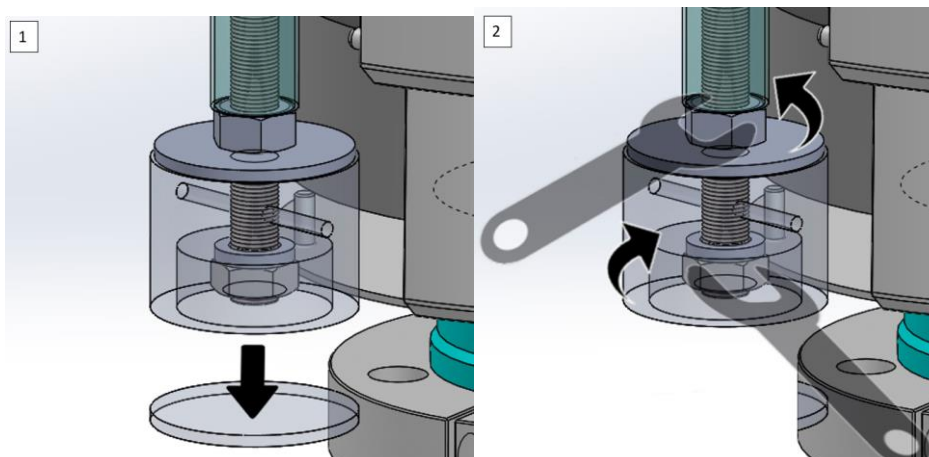

Fig.22 Adjusting the travel brake. Loosen elements and position
1. Locate the cover on the bottom of the travel brake actuator and remove it using a flat-bladed tool such as a screwdriver. Picture on the left in figure 22.
2. Loosen the two nuts as shown in the picture on the right in figure 22.